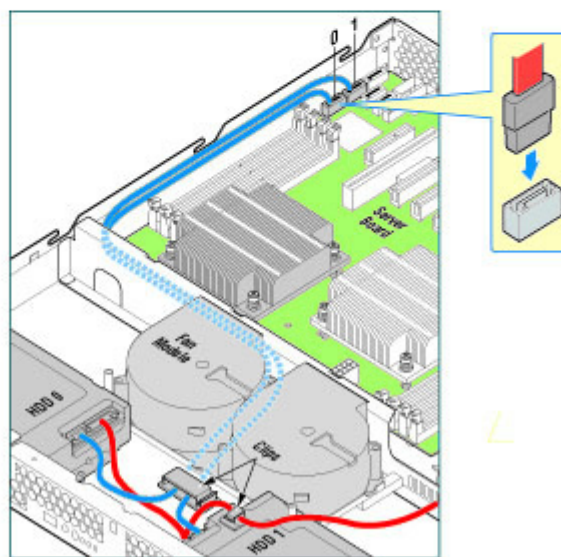

Figure 32. Connecting Hard Driver Power and Data Cables
- a. If a drive is installed in the HDD0 carrier, connect the HDD0 data cable to the SATA 0 connector on the server board. See letter "A" in Figure 32.
- b. If a drive is installed in the HDD1 carrier, connect the HDD1 data cable to the SATA 1 connector on the server board. See letter "B" in Figure 32.